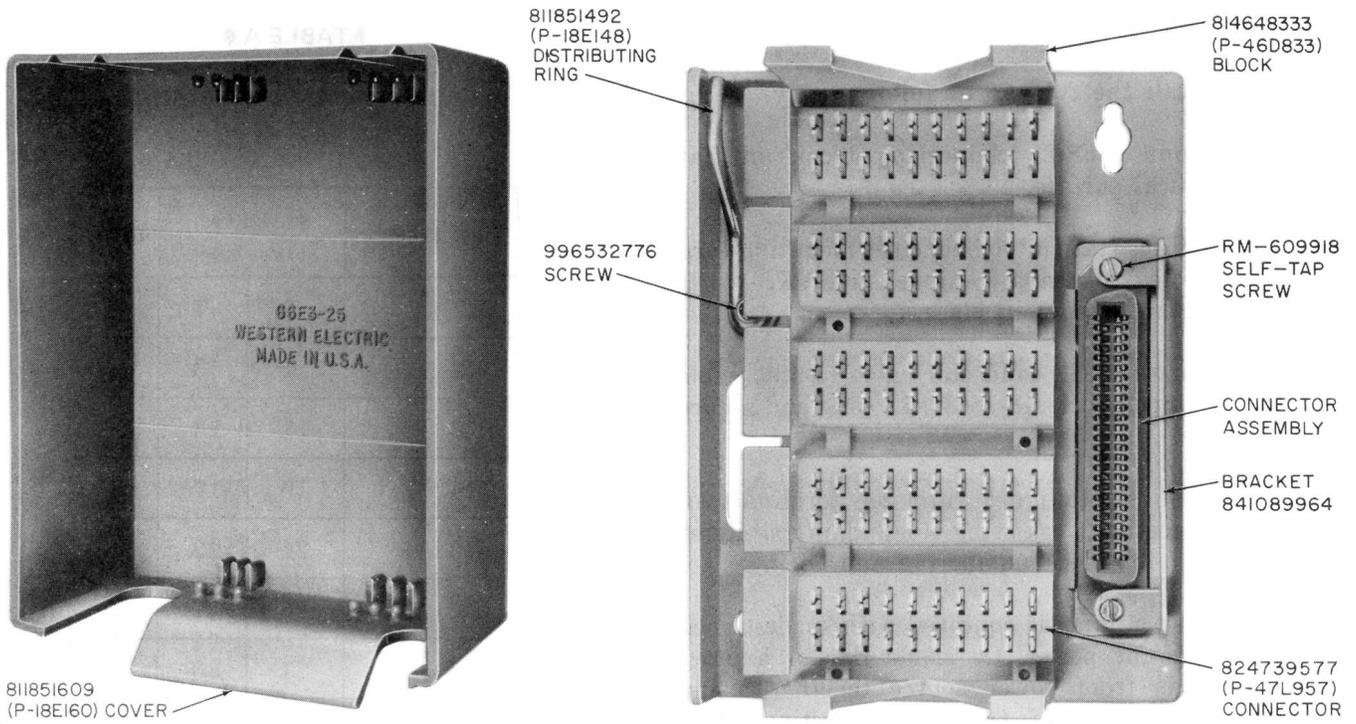

Fig. 1—66E3-25 Connecting Block
**2.04** The 66E3-25 connecting block (Fig. 1) is equipped with a molded plastic housing incorporating a snap-on cover and a cable trough in the base. The block should be mounted on a firm flat surface. Provisions are also made for mounting the block to a standard wall outlet box or overfloor duct by using a 152A adapter.
**2.08** A new bracket design has been incorporated on the 66E3-25 and 66E4-25 connecting blocks for attaching both the low and high silhouette plug or connectors. The new bracket 841089964 (Fig. 1), which contains a diagonal slot, replaces the present P-21E608 bracket. The new slot provides improved retention of the connector and plug to eliminate accidental disengagement resulting from external movement of the cord or connector cable.
**3.05** On 66E3-25 and 66E4-25 connecting blocks, field replacement of the old retainer bracket (P-21E608) with the new retainer bracket (841089964) can be accomplished by removing two easily accessible RM-609918 button-head self-tapping screws (Fig. 1), removing the old bracket, installing the new bracket, and replacing the two screws. Attach retainer to bracket with 824634729 (P-46L472) RD washerhead screw.